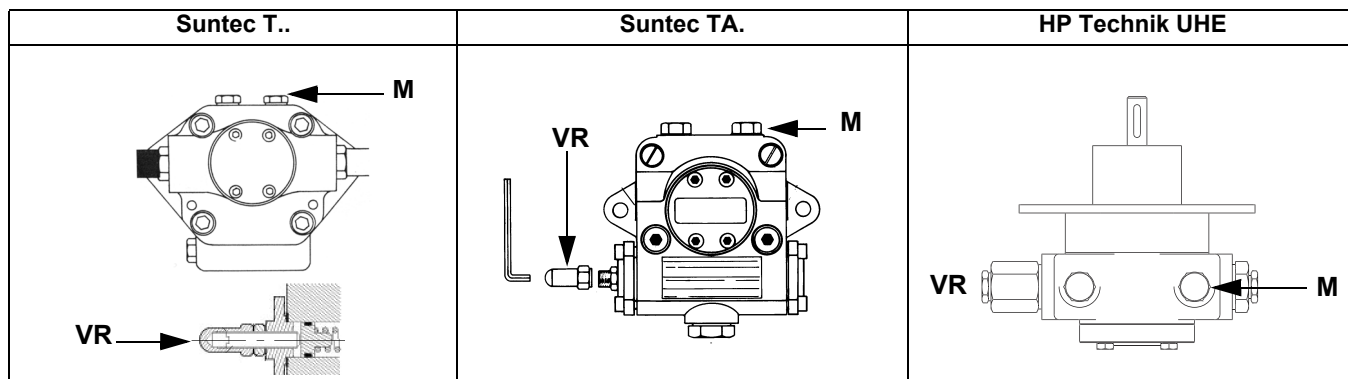

Fig. 10
- 3 bleed the air from the **M** pressure gauge port (Fig. 10) by loosening the cap without removing it, then release the contactor.
- 5 Only if necessary, adjust the supply pressure as follows (see related paragraph); insert a pressure gauge into the port shown on Fig. 11 and act on the pump adjusting screw **VR** (see Fig. 10) as to get the nozzle pressure at 20bar (Monarch or Fluidics nozzles - see page 43-38).